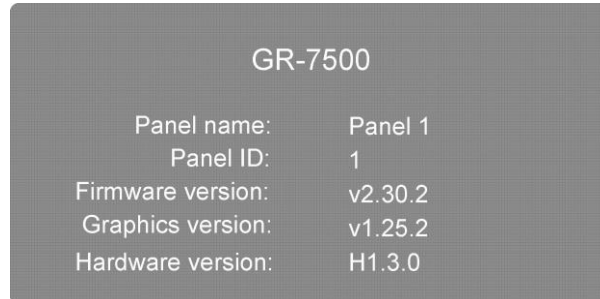

Figure 21
Pressing the panel information icon (Figure 21, ref 1) will open a popup with some basic panel information.